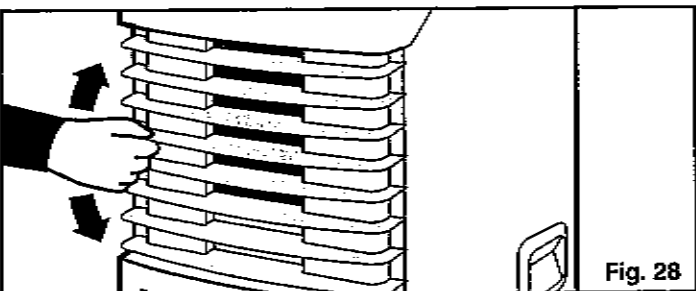

Fig. 28
- 5) To adjust "air flow" direction, (up / down only) adjust any one of the **Horizontal Louver Blades** (excluding the top and bottom louver) and the remaining louvers will automatically adjust to the same position. *Fig. 28*.